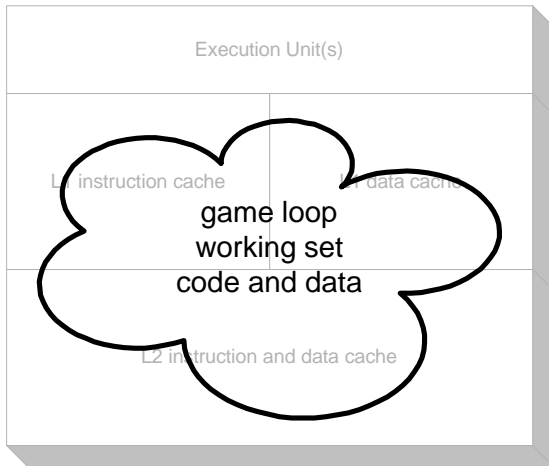

Figure 4 L1 and L2 caches can store a working set's code and data
- Figure 4 L1 and L2 caches can store a working set's code and data6